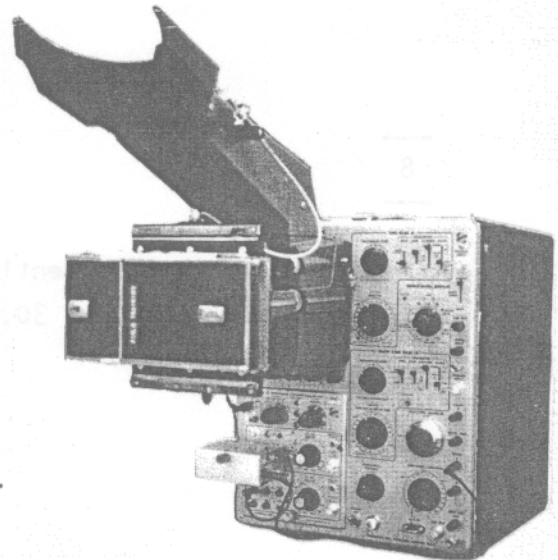

FIGURE 30A
30.18 Figure 30A shows the test set-up used to obtain the information in figure 30. The resultant curve represents a small, minimum, low (positive, negative) conductance.